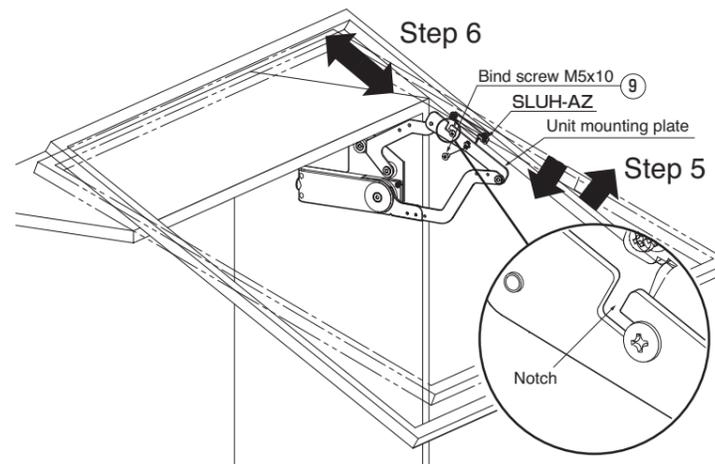

Fig. 8. Installation of 20mm width aluminum frame door (The same procedures are carried out for 45mm width aluminum frame door or solid wooden door)
Step 5. Insert the bind screw ⑨ (or ⑤) temporarily fastened to the mounting plate SLUH-AZ (or SLUH-SZ) into the notch of the unit mounting plate of the EZ-SLU side body. (Fig. 8)
After inserted, adjust installing angle position so that the screw of the other side can be fixed. (Fig. 8)
Step 6. After putting in the door, fasten it inserting the bind screws M5x10 ⑨ (or ⑤) for both sides into the lower threaded hole of the mounting plate SLUH-AZ (or SLUH-SZ) through the oblong hole of the unit mounting plate. (Fig. 8)